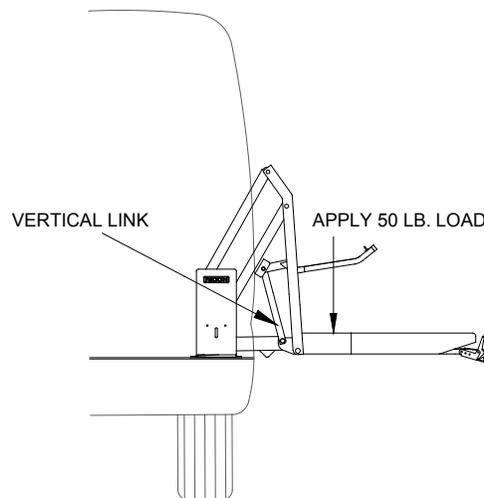

FIGURE 2-15: PRESSURE SWITCH TEST AT FLOOR LEVEL
- a. Refer to **Figure 2-15**. Deploy and lower platform to ground. Place a 50 lb. load (no larger than